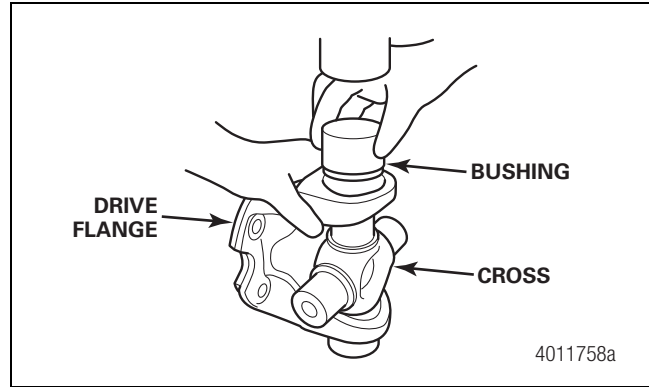

Figure 4.62
3. Install the cross into the drive flange. Figure 4.62.